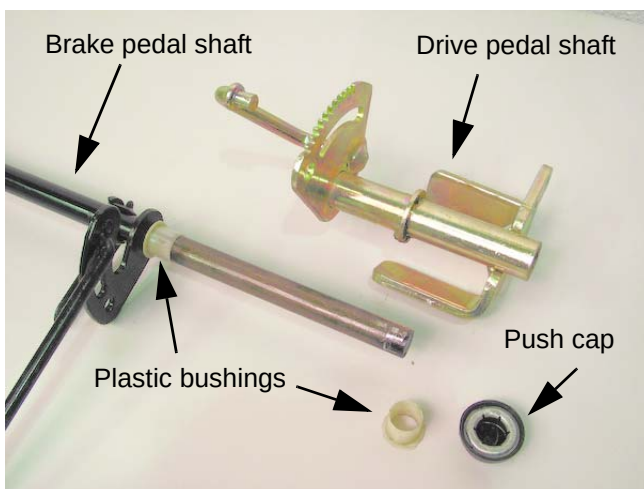

Figure 5.27
1. Separate the two concentric shafts. See Figure 5.27.